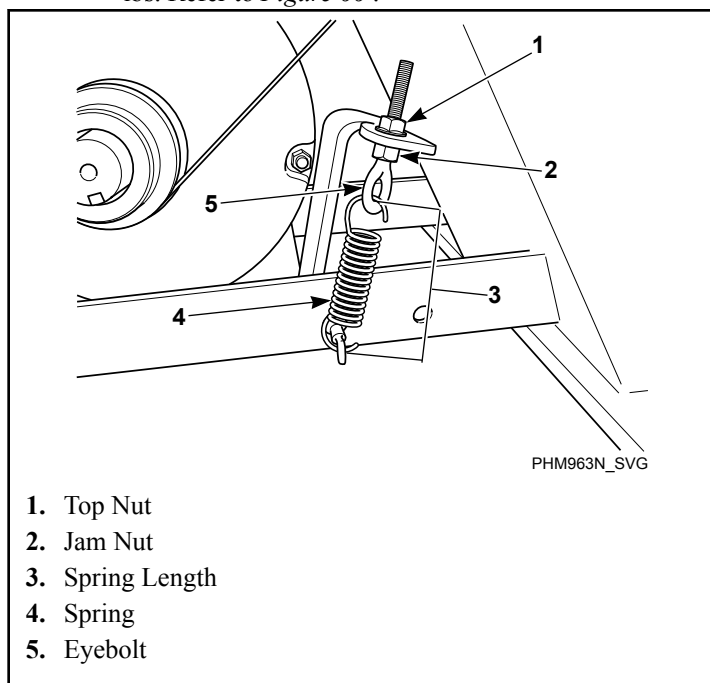

Figure 66
- **Frequency Gauge.** Tighten eyebolt top nut until the correct frequency (refer to *Table 10*) is obtained mid-span. Torque jam nut to spring bracket to 20.6 ± 2 ft.-lbs. Refer to *Figure 66*.
Torque jam nut to spring bracket to 20.6 ± 2 ft.-lbs. Refer to *Figure 66*.
- **Spring Length.** Tighten eyebolt top nut until the spring measures the correct distance between the hooks. Refer to *Table 45*. Torque jam nut to spring bracket to 20.6 ± 2 ft.-lbs. Refer to *Figure 66*.
- **Maintain Tension During Belt Removal.** If proper tension is achieved, tape the jam nut in place and loosen eyebolt top nut to release the belt. Replace belt and retighten eyebolt top nut back to jam nut position. Refer to *Figure 66*.